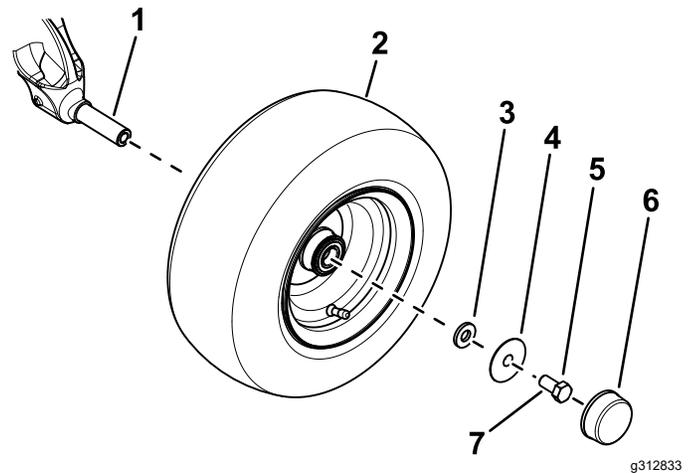

Figure 3
- Use a small washer, large washer, bolt (5/8 x 1-1/4 inch), and to secure the wheel to the axle spindle (Figure 3).
- Install the dust cap to the wheel (Figure 3).